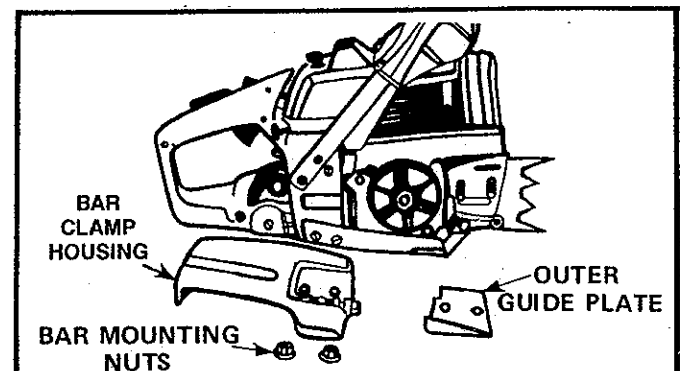

Figure 48
2. Remove the bar clamp housing, outer guide plate, guide bar, and chain. Figure 48.